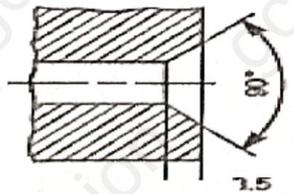

Figure 9
14. The dimensioning represented in figure 9 below is for the